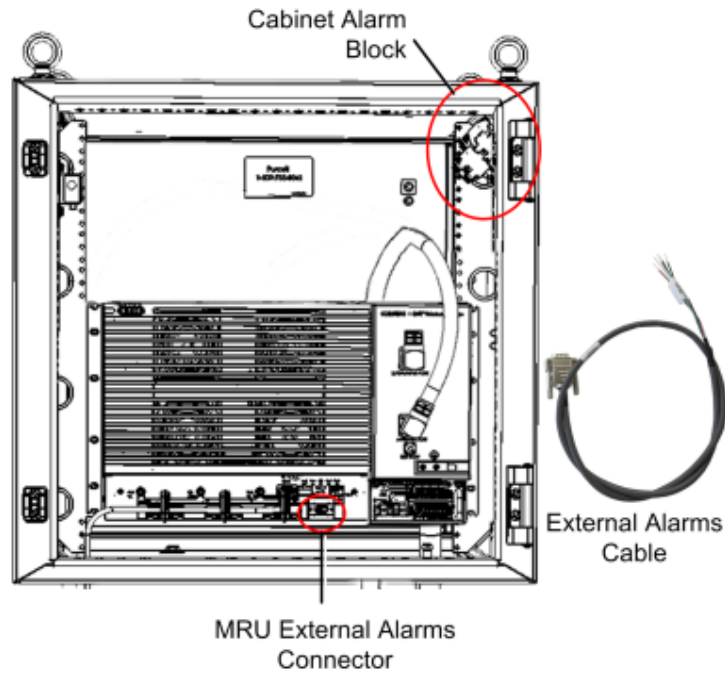

Figure 4-12. Location of External Alarms Connector and Cabinet Alarms Block
- A. Connect the external alarms cable (provided with the MRU) to the chassis’s DB-9 ‘External Alarms’ connector. The connector provides indications for door opening, heat exchanger (HEX) and one additional input for future use. Refer to Table 4-5 and to Figure 4-12 for MRU ‘External Alarms’ connector pin out.